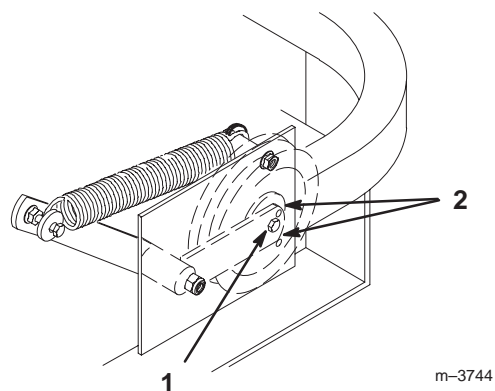

Figure 53
8. Check belt tension. The center bolt of spring loaded idler must be between the two alignment holes in left support plate (Fig 53).
10. Check belt tension again. The center bolt of spring loaded idler must be between the two alignment holes in left support plate (Fig. 53). Adjust, if necessary, and tighten all hardware securely.